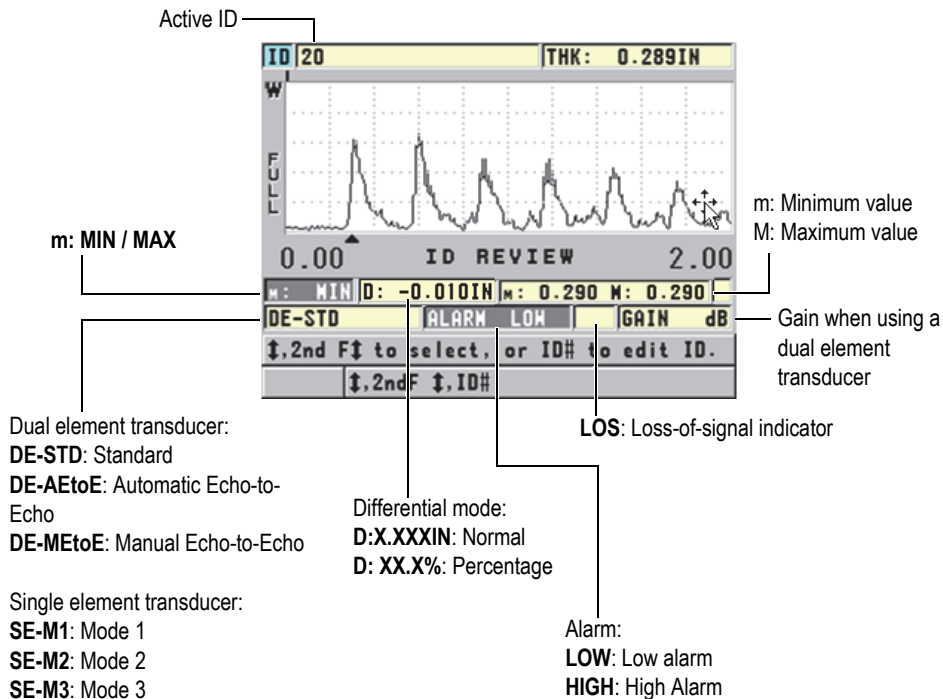

Figure 6-36 Identifying the ID review screen
Figure 6-36 on page 126 shows an example of the ID review screen and describes its contents. The area under the waveform is reserved for status flags describing the displayed stored thickness values. The flags are the same single letter abbreviations for status words transmitted by the gauge using the send commands (see “Managing Communications and Data Transfer” on page 195).
3. While in the ID review screen (see Figure 6-36 on page 126), perform the following actions: